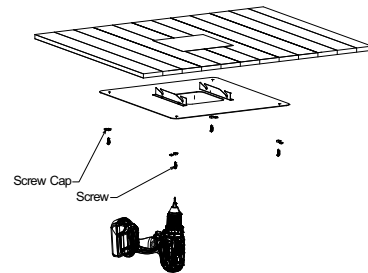

Figure 3
4. Fix the plate on the soffit with screw and screw cap. (Figure 3)